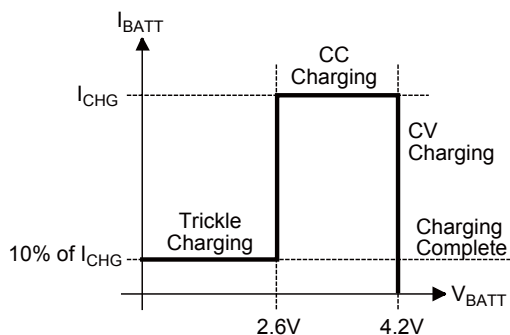

Figure 2—MP2631 Typical Charging Profile
Figure 2 below shows the typical charging profile for the MP2631. It begins charging at the constant current of the programmed value ( $I_{CHG}$ ). This is referred to as Constant Current (CC) mode. For a deeply discharged battery, it will start trickle at 10% of the programmed charge current until battery voltage reaches 2.6V. Once the battery voltage reaches 4.2V, the charger will operate in the constant voltage (CV) charge mode. The charge current drops during CV mode, and the battery full indication is set when the charge current reduces to the battery full value ( $I_{BF}$ ) at 10% of the nominal charge current.